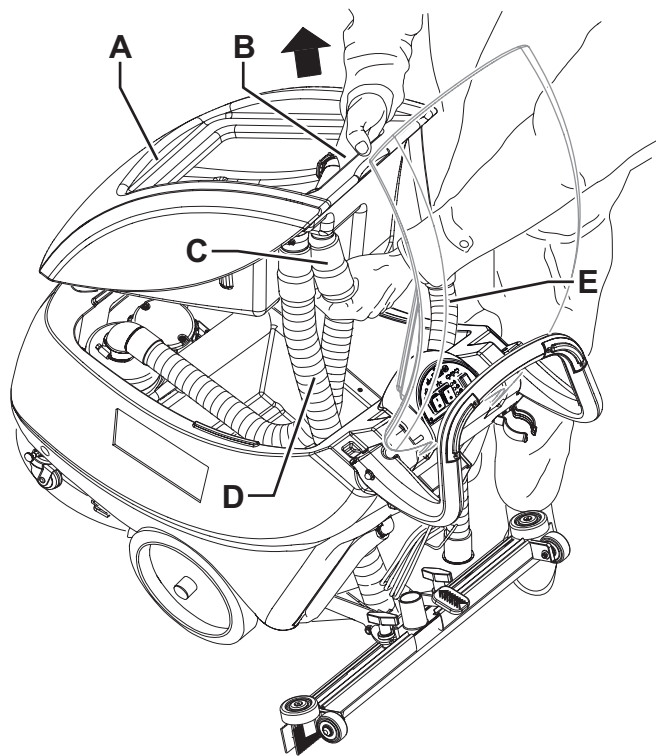

Figure 6
1. Empty the recovery tank (27) as shown in the relevant paragraph.
3. Make sure that the power supply cable plug (21) is disconnected from the electrical mains.
4. Disconnect the vacuum hose (22) from the squeegee (11).
5. Disconnect the recovery water drain hose (16) from the bracket (17).
6. Open the cover (6).
7. Grasp the recovery tank (A, Fig. 6) in the area (B) and slightly raise it.
8. Disconnect the vacuum hose (C) from the tank, then remove the tank (A) with the hoses (D) and (E).